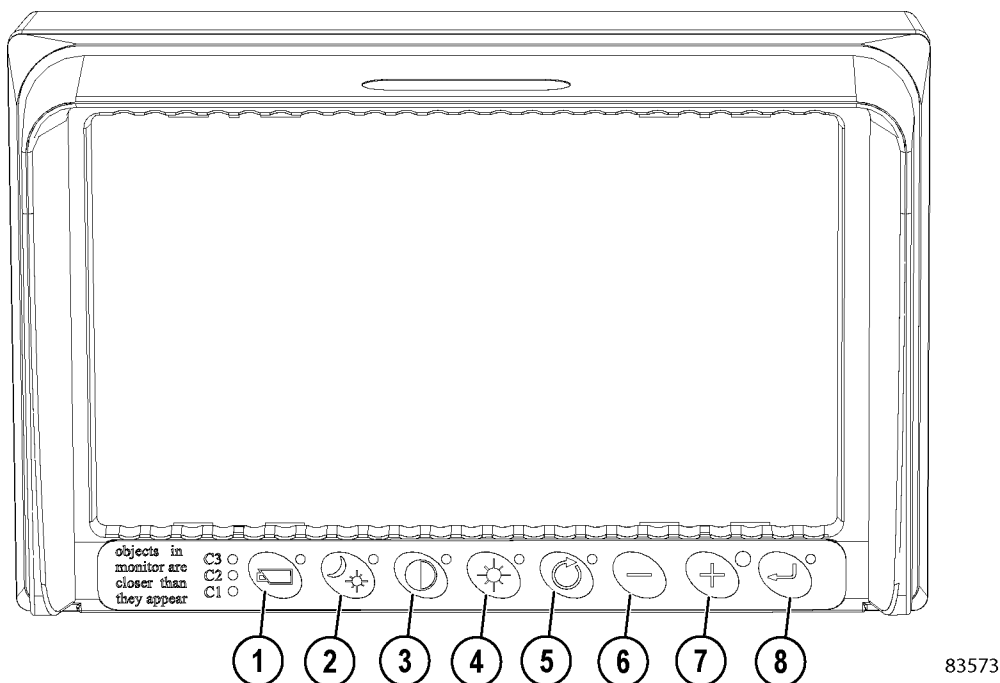

FIGURE 33-5. CAMERA MONITOR AND BUTTONS
The camera monitor has eight buttons to adjust various settings. Refer to Figure 33-5.
Press button (1, Figure 33-5) once. The camera LED will blink, indicating that the manual camera override is active. Use the “plus” and “minus” buttons to select the desired camera. Press button (1) again to stop the manual override. The manual camera selection has priority over the scan function and the switching wires.